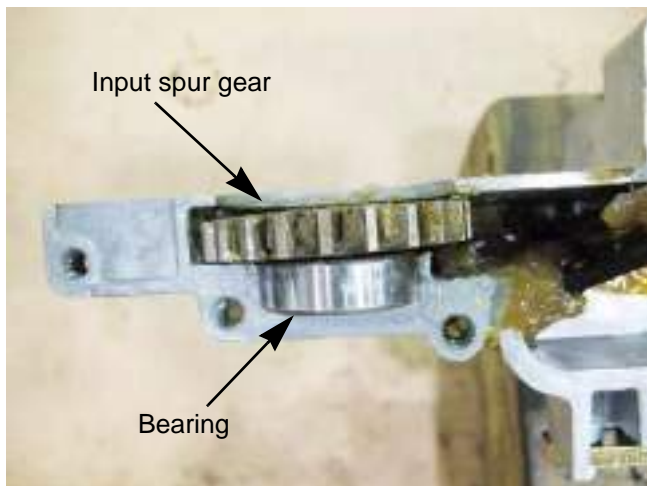

Figure 5B.39
- Remove the input spur gear. See Figure 5B.39